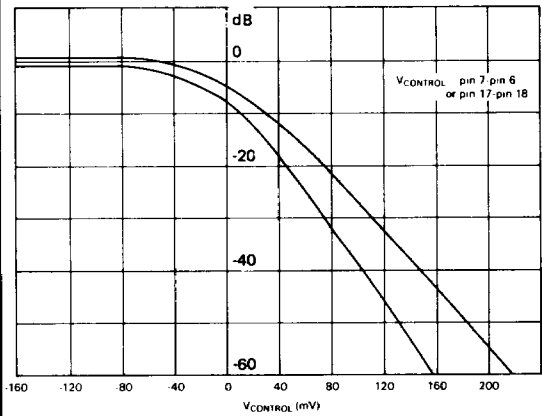

Figure 1. VCA Gain Characteristics
**Pin 6 - TCH** — Transmit VCA gain control pin; high reference. Used with pin 7 to control VCA gain according to Figure 1.
**Pin 17 - RCL** – Receive VCA gain control pin low referenced used with pin 18 to control VCA gain according to Figure 1.